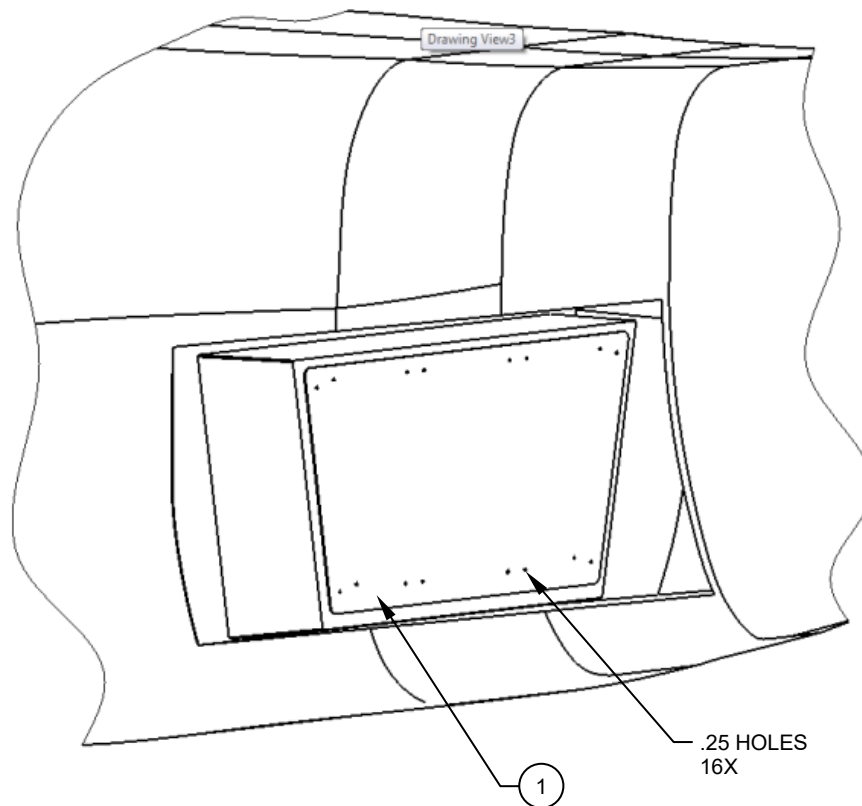

Figure 2
2. Pre-fit the Panel, Assy (Item 1) by lining up the exterior profile of the Panel, Assy (Item1), with the aux tank aft panel. Reference Figures 2.
3. With the panel lined up use the pre-cut .25 holes and a felt pen to mark out the locations for the Velcro, Detail (Items 4) and remove the Panel, Assy (Item 1). Reference Figure 2.